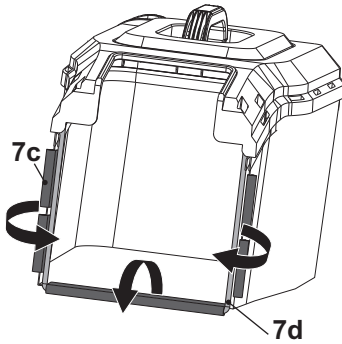

Fig. 5
- Clip the three rubber clips (7c) to the supporting rod (7d) of the grass catcher (7) (Fig. 5).